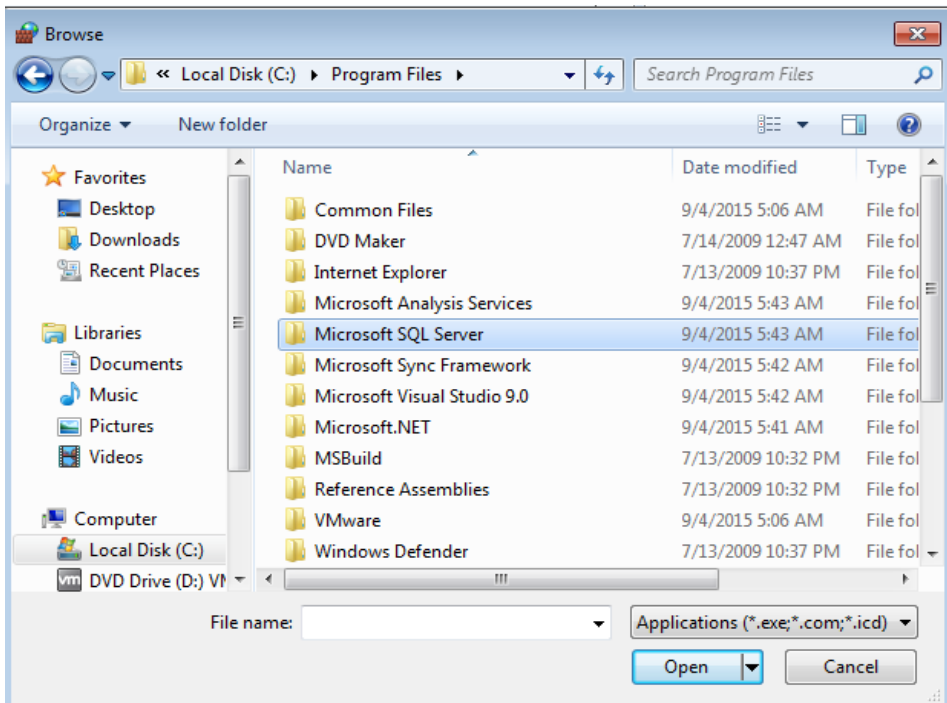

Fig.1.20 Program Files
(8) Open “MSSQL10.MSSQLSERVER” folder (see Fig.1.20). Then open “MSSQL” folder